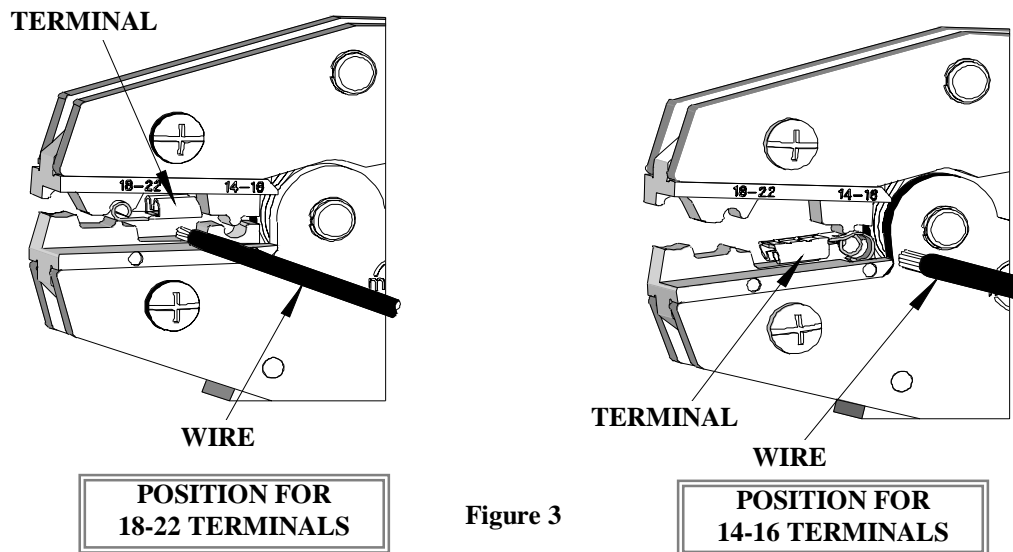

Figure 3
2. Partially close the tool to hold the terminal in place. See Figure 3.